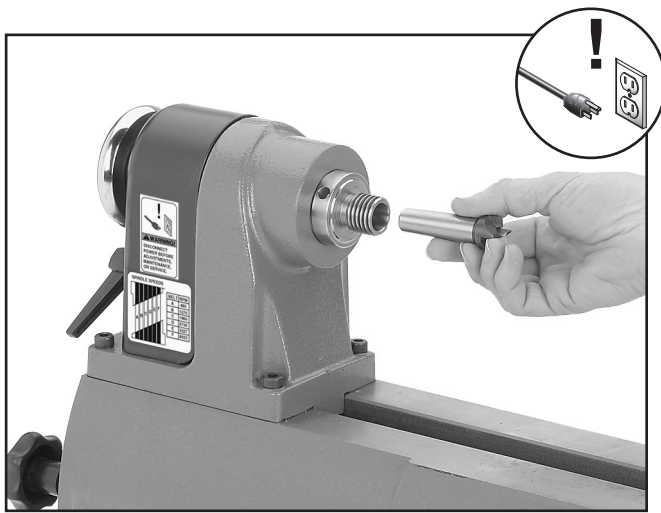

Figure 12. Inserting spur center into spindle.
2. Insert the tapered end of the center into the spindle, and push it in quickly and firmly (see **Figure 12**).